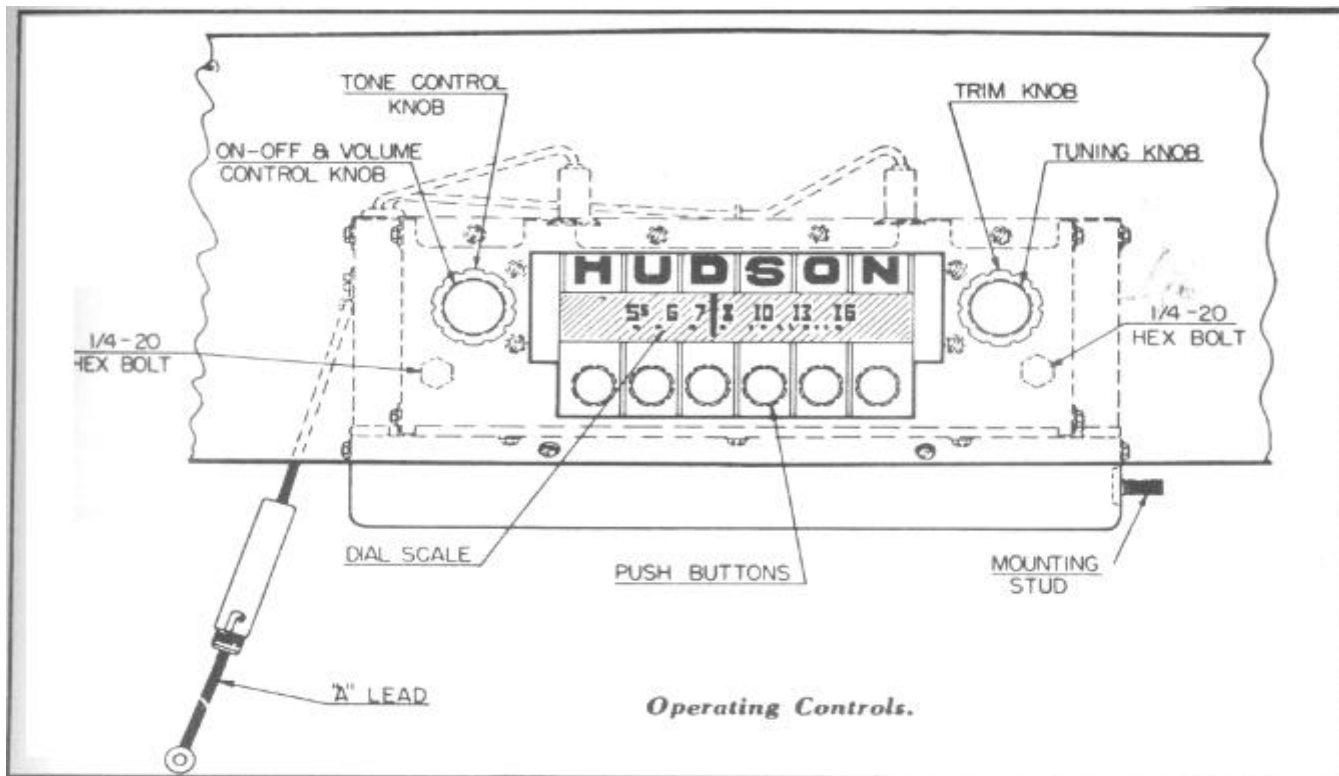
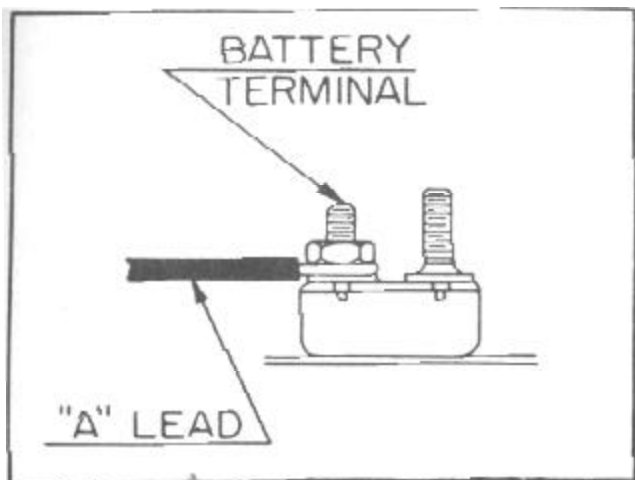

FIGURE 34
FIGURE 35
10. Connect the "A" lead of the set to the battery terminal of the circuit breaker, Figure 34, mounted on the instrument panel brace over the steering column (Figure 35).
15. Place tone control knob onto shaft; put on volume control knob, and tighten set screw (Figure 34). Be sure there is no binding.
16. Place knob tension spring over the tuning shaft. Put on trim ring and press on tuning control knob as far as it will go. Tighten set screw (Figure 34).
2. Turn the manual tuning control knob (Figure 34) to tune in the desired station. Carefully tune to the middle of the signal for clearest reception.